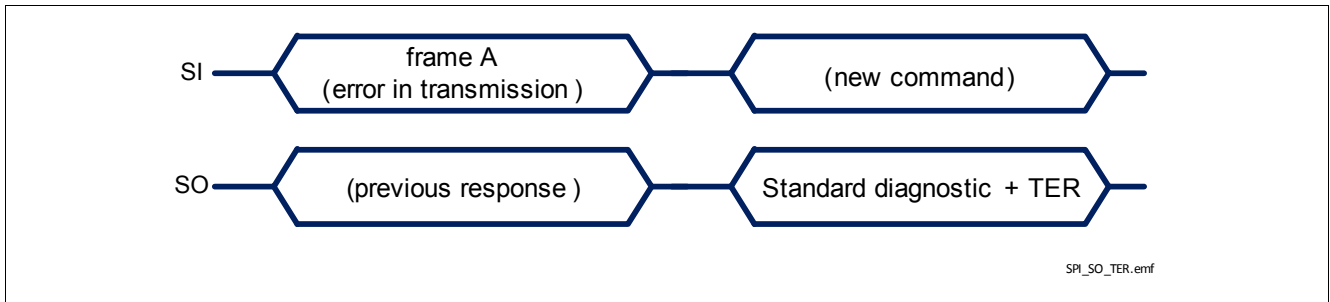

Figure 29 TLE75004-ELD response after a error in transmission
- in case an error in transmission happened during the previous frame (for instance, the clock pulses were not multiple of 8 with a minimum of 16 bits), shown in Figure 29